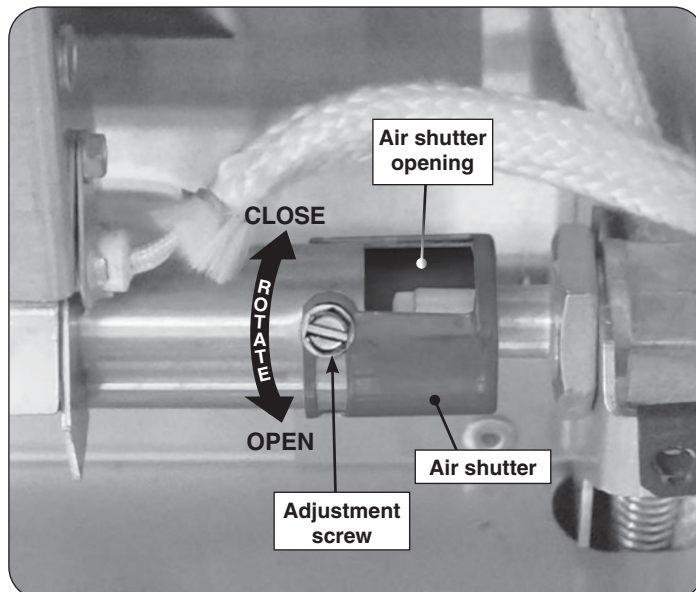

Fig. 40-1 Backburner air shutter adjustment detail
2. Loosen the adjustment screw with a flathead screwdriver, then carefully rotate the shutter to open or close it. See Fig. 40-1 for details.